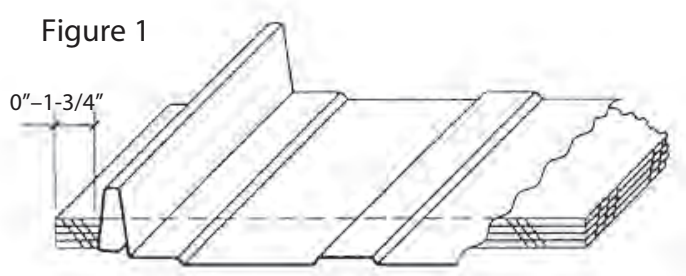

Figure 1
2. Align the female edge of the first panel with a chalk line snapped from 0" to 1-3/4" at the rake edge. Panel should overhang eave a minimum of 1". (See Figure 1)